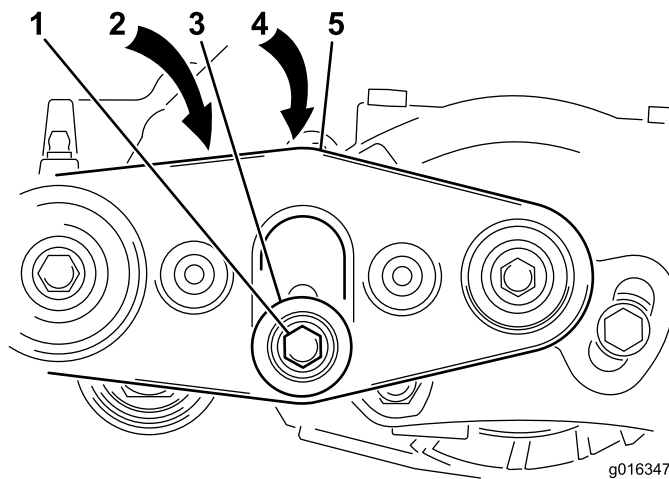

Figure 11
- A. Loosen the hex bolt and the nut securing the idler pulley to the right brush support; see Figure 11.